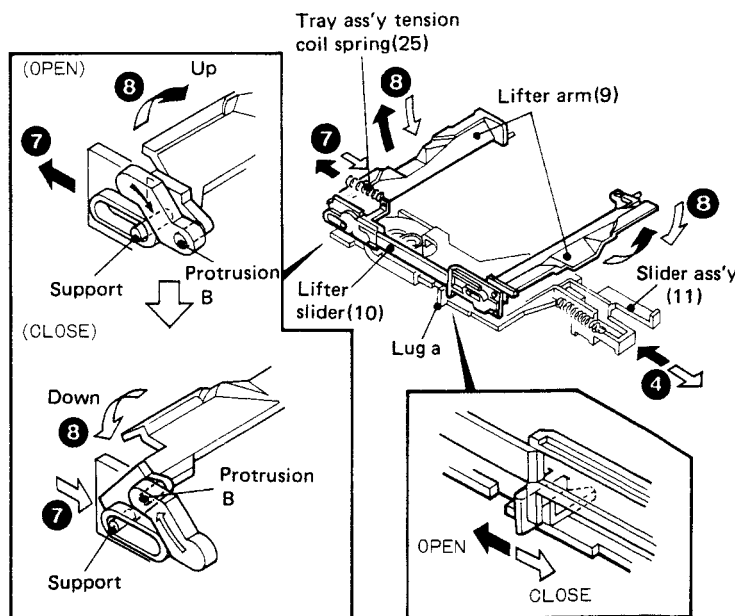

Fig. 5 Lifter arm up/down operation
Fig. 5 shows the OPEN operation until the disc is lifted from the turntable and placed on the disc tray so that the disc is removed from the player. These operations are performed almost at the same time as the up operations of the clamber arm(8) when the tray is opened as described in Fig. 2 to 4 above.